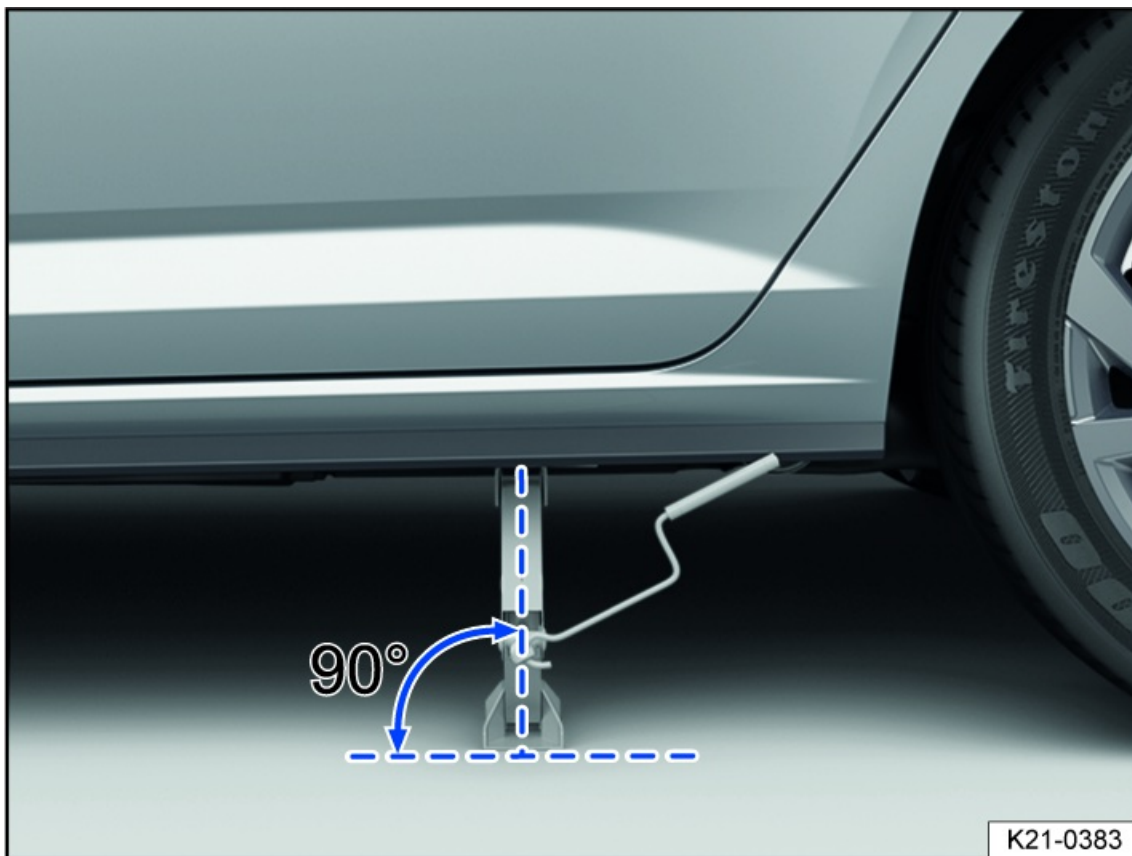
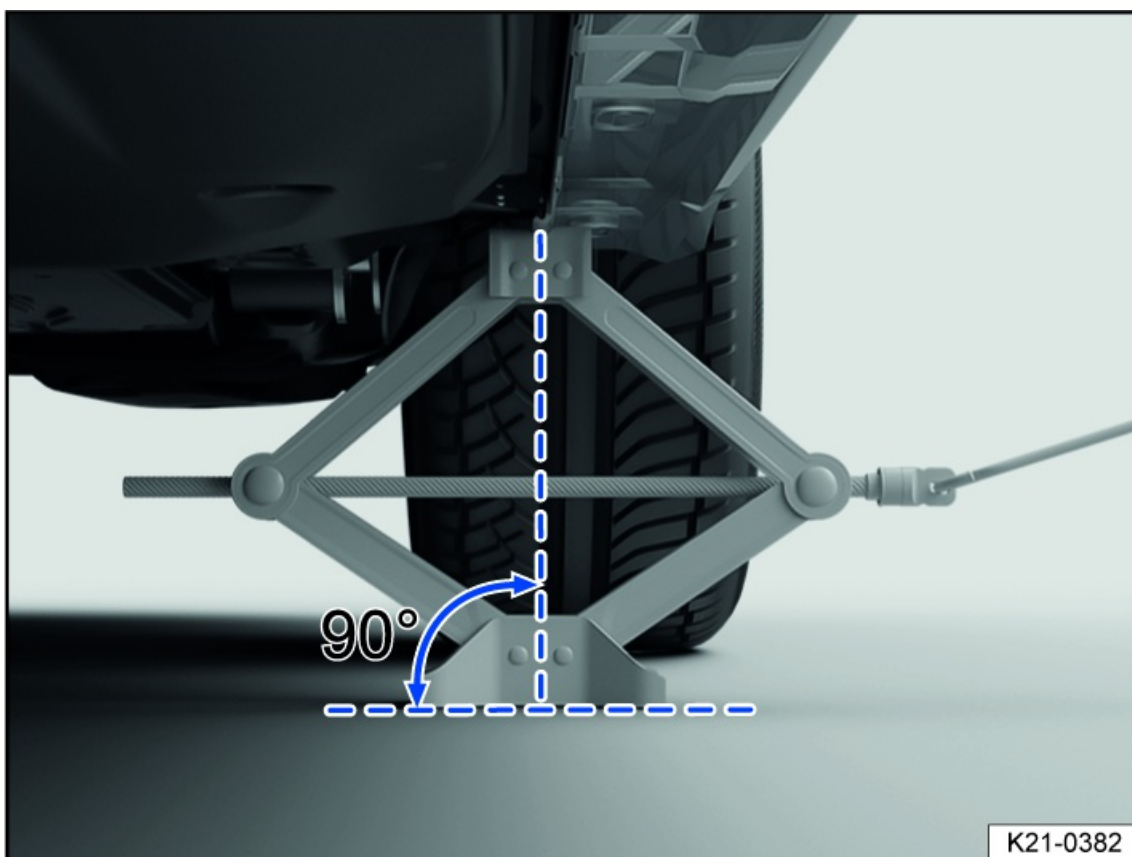
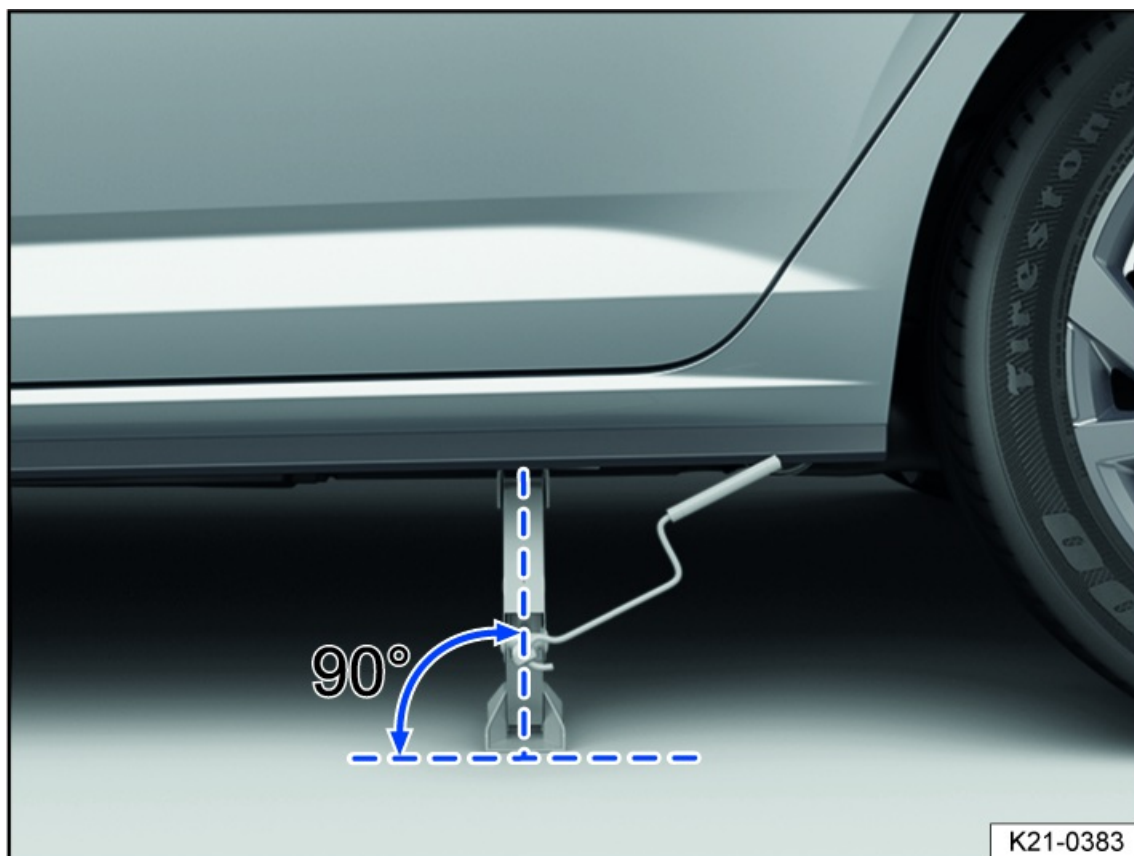
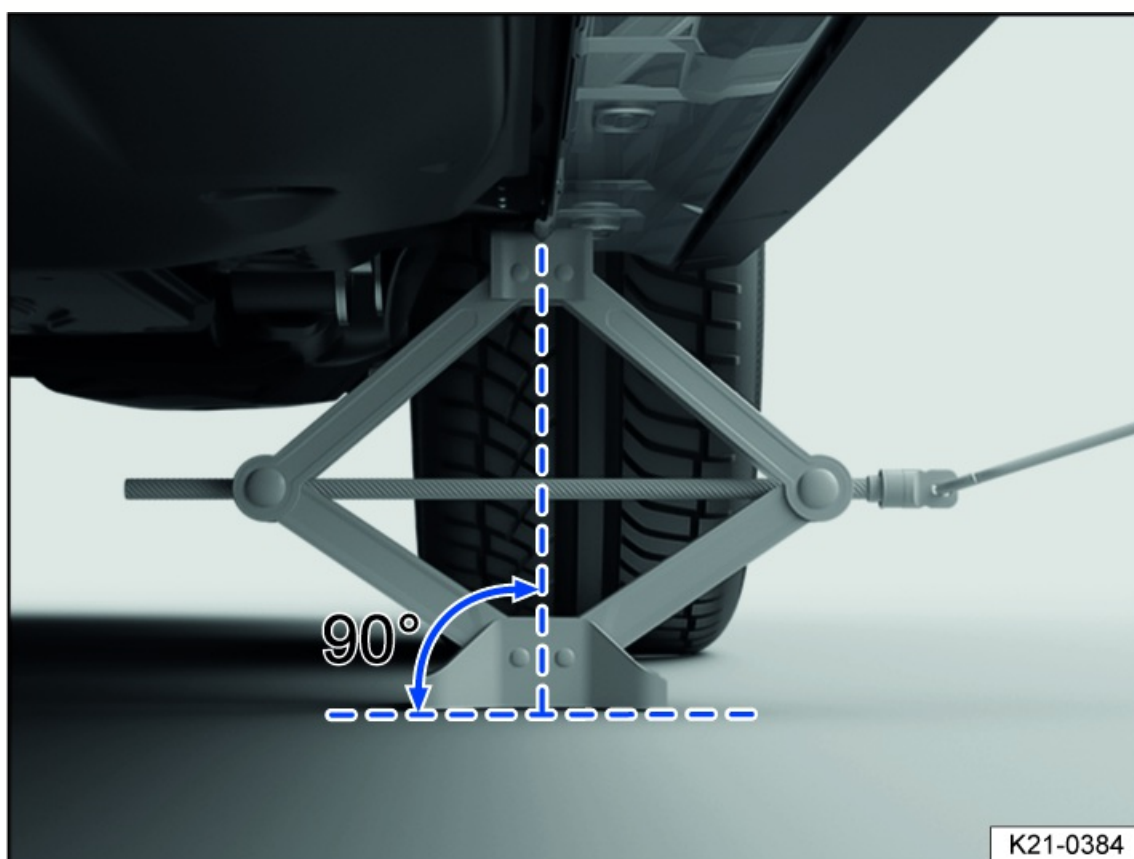

Fig. 183 Correct jack setup (variant 1).
Fig. 184 On the left side of the vehicle at the rear: jack in position (variant 1).
Fig. 185 Correct jack setup (variant 2).
Fig. 186 On the left side of the vehicle at the rear: jack in position (variant 2).
4. Make sure the entire base of the jack is seated securely on the ground and that the base of the jack is located exactly directly below the lift point fig. 183 and fig. 184 or fig. 185 and fig. 186.
5. Straighten out the vehicle jack and continue raising the bracket on the top of the jack until the bracket is positioned on the vehicle lift point under the vehicle fig. 184 or fig. 186.
- Only place the vehicle jack at the lift points described. The bracket on the vehicle jack must firmly grip the sill fig. 184 or fig. 186.